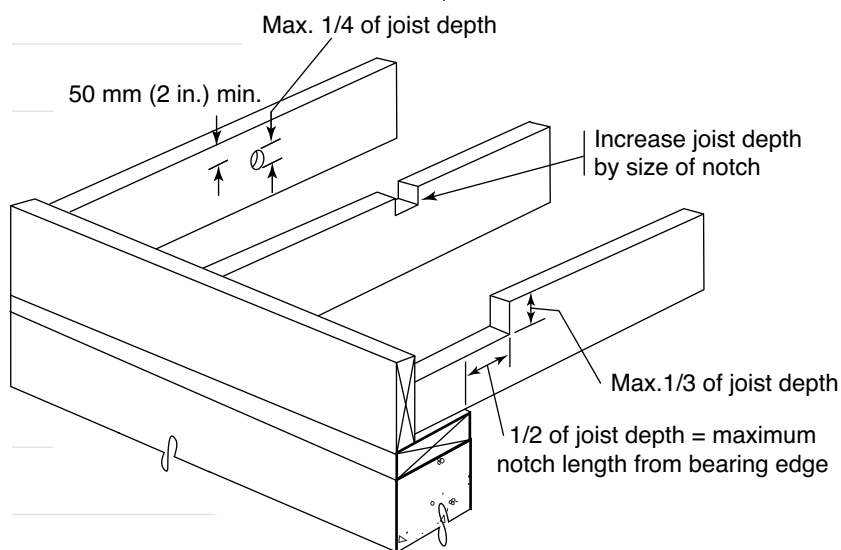

FIGURE 25
- ◆ Floor joists can be notched, provided the notch is located on the top of the member within half the joist depth from the edge of the bearing. Do not notch deeper than one-third the joist depth unless you increase the depth of the member by the size of the notch (see Figure 25).